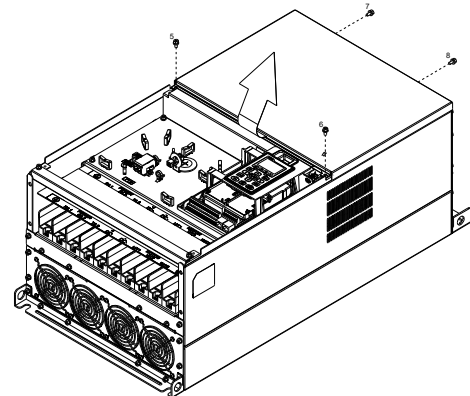

Figure 2
(2) Loosen the screw (figure 2) and remove the cover.